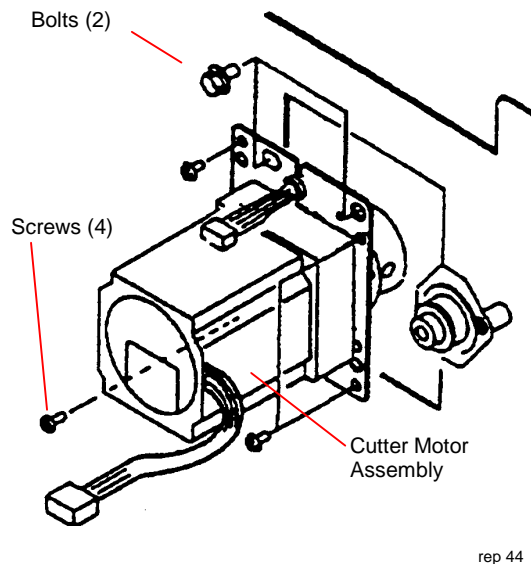

Figure 1. Removing the Cutter Motor Assembly
2. (Figure 1): Disconnect the connector, remove the hardware, and remove the Cutter Motor Assembly.